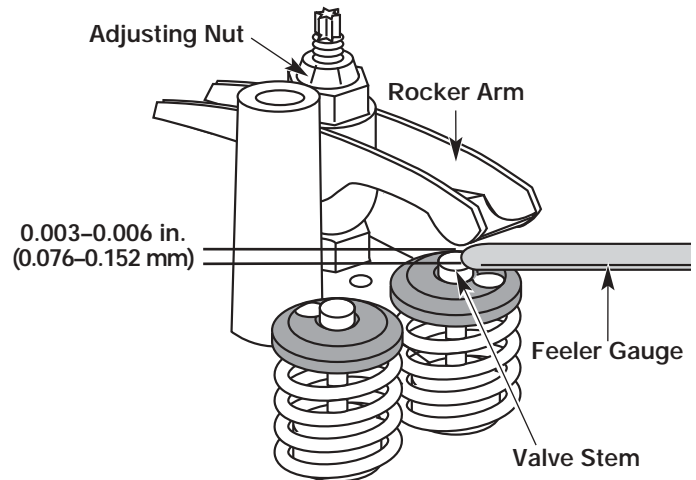

Fig. 29
- Slide the feeler gauge between the rocker arm and the valve return spring. Measure the clearance between the valve stem and rocker arm (Fig. 29). Measure both the intake and exhaust valves.
- Turn the adjusting nut using a 5/16 inch (8 mm) wrench or nut driver (Fig. 29).